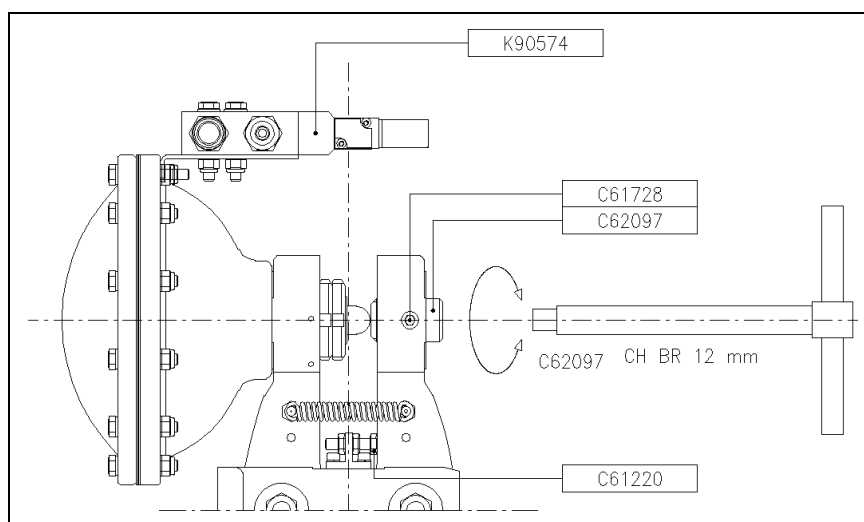
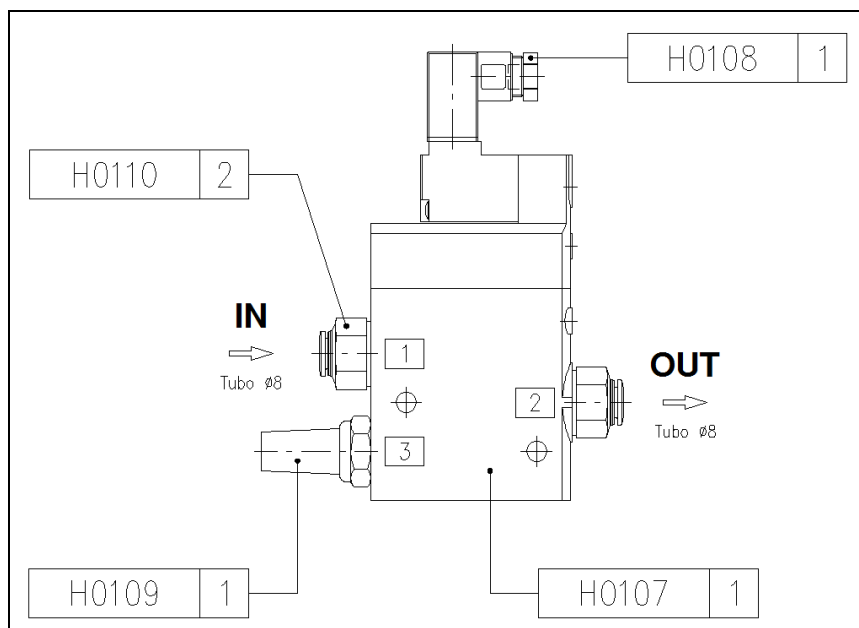

Figure 1
Figure 3
Before installation, remove the spacer between the pads. To remove this spacer, widen the space between the pads, rotating the grub screw C62097 (Figure 1) using a n. 12 Allen key, after loosening the grub screws (C61728) using a 5 Allen key. Once the spacer has been removed, proceed with the installation.
2. Adjust the play between the brake linings and the disc using the play adjuster and a n. 12 Allen key, rotating in the appropriate direction (Figure 1) after loosening the grub screws (C61728) using a 5 Allen key; when a play of 1 mm between the disc and each brake lining has been obtained, block the adjuster C62097 in position locking the grub screws (C61728) using a n. 5 Allen key.
- Connect the solenoid valve assembly K90574, placed on the thruster of the brake (Figure 1), to the supply line using the 3/8" gas fitting H0110 as per position 1 (Figure 3) and a flexible hose long enough to allow wide possibilities of movement to the thruster.
1. Cut off pressure to the thruster, loosen the grub screws C61728 (Figure 1).
3. Lock the grub screws C61728 (Figure 1).
7. Reconnect the thruster to the solenoid valve K90574 in position 2 of the H0107 valve (Figure 3).
6. Reconnect the thruster to the solenoid valve K90574 in position 2 of the H0107 valve (Figure 3).